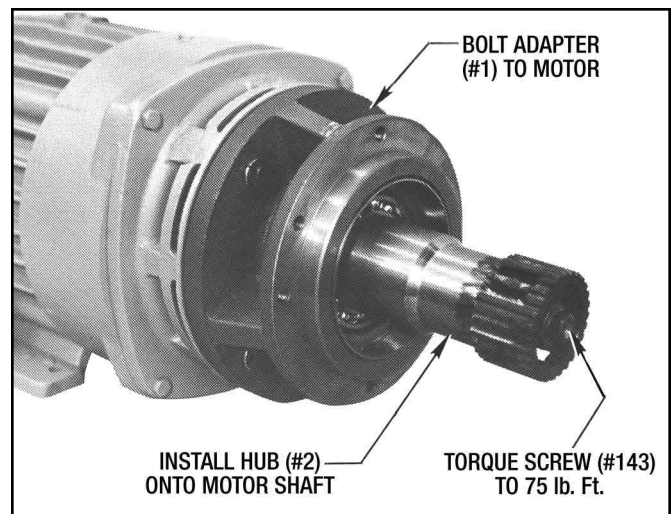

Figure 9.3 - Installing Input Subassembly On Motor
6. Place Hub Assembly (#2) onto the motor shaft by passing it thru C-Face Adapter (#1) and tapping it thru Oil Seal (#62) with a rubber mallet. Torque Cap Screw (#143) to 75 Lb/Ft. (See Figure 9-3.) Be sure not to preload Bearing (#40).